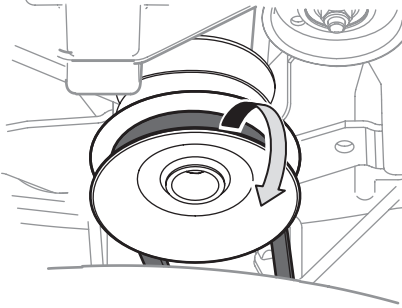

Figure 33
- Remove the belt from around the riding mower's PTO pulley. (Figure 33).
- Remove the deck belt from around the riding mower's PTO drive pulley (Figure 33). Simply roll one side of the belt off of the pulley and then work it off the pulley by continuing around the pulley until the belt is off of the pulley.
- Feed the deck belt through the belt keeper rod and work it around and onto the PTO drive pulley (Figure 33 on page 26).